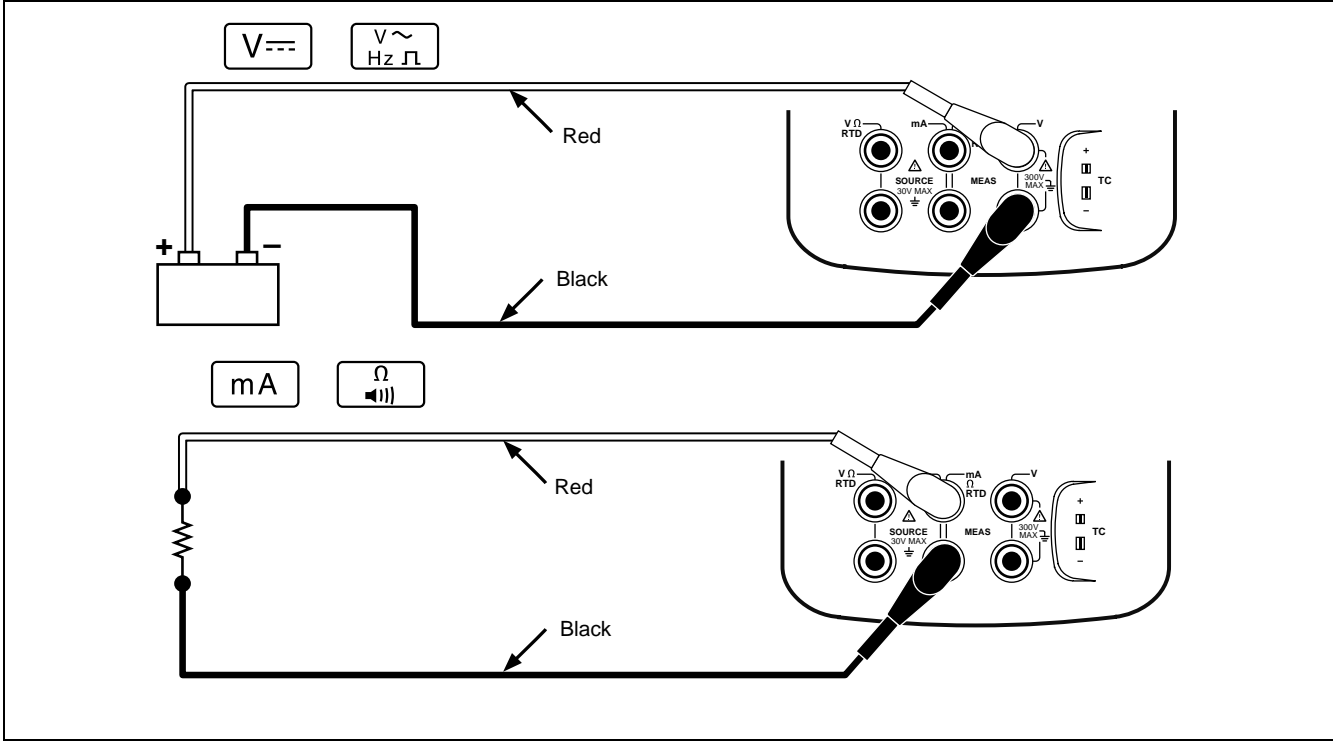

Figure 9. Electrical Measurement Connections
2. Connect the test leads as shown in Figure 9, depending on the measurement function.
4. Connect the calibrator to the circuit to be tested as Figure 9 shows.